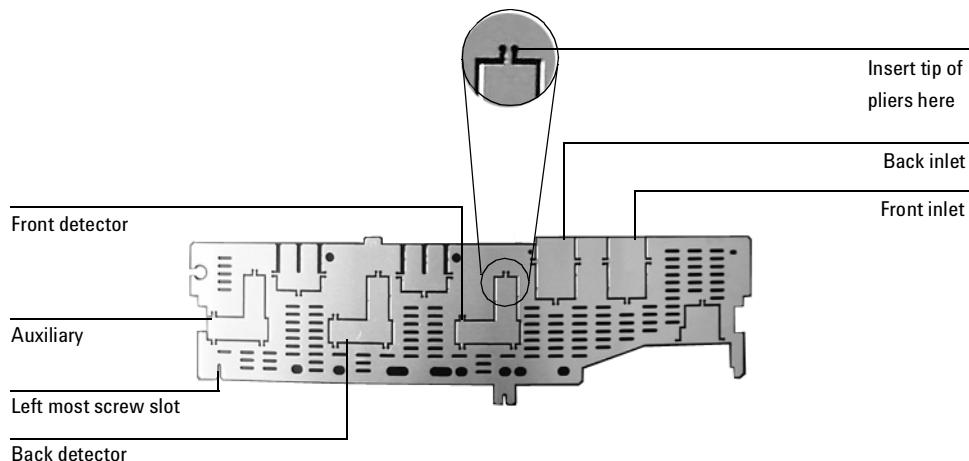

Figure 341-13 Top rear panel cutouts
10. Using a pair of needle-nosed pliers, remove the appropriate top rear panel detector cutout for the μ -ECD. Also remove any cutouts needed to access other manifolds or accessories installed in the GC. See Figure 341-13.